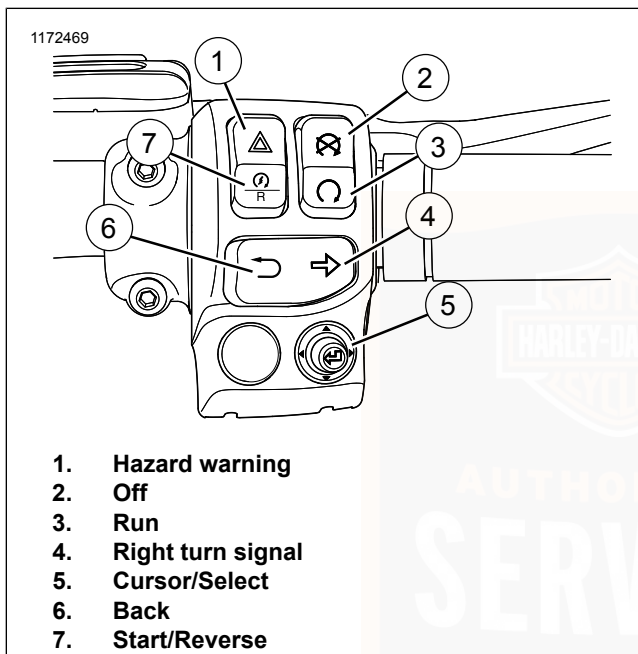

Figure 32. Right Hand Switch Module
See Figure 32. The hazard switch (1) is used to leave a stranded motorcycle in the 4-way flashing mode. With the flashers, the motorcycle can be left with the ignition off until assistance is found. Refer to Table 28.
See Figure 32. Press the engine OFF/RUN switch to off (2) to shut off the engine. Refer to Table 28.
See Figure 32. Push the engine OFF/RUN switch to run (3) to enable engine start and run. The engine OFF/RUN switch must be in the run position to start or operate the engine. Refer to Table 28.
See Figure 32. Press the right turn signal switch (4) to activate the right turn signal. Refer to Table 28.
See Figure 32. The CURSOR/SELECT five-way switch (5) operates radio features on equipped vehicles. See the BOOM! BOX OWNER'S MANUAL. Refer to Table 28.
See Figure 32. The back switch (6) operates radio features on equipped vehicles. See the BOOM! BOX OWNER'S MANUAL. Refer to Table 28.
2. Figure 32. Switch the OFF/RUN switch to the run position (3). Shift the transmission to neutral. The neutral (green) indicator illuminates. See Operation > Starting the Engine (Page 117).
3. Press the start switch (7) to operate the starter motor. Refer to Table 28.